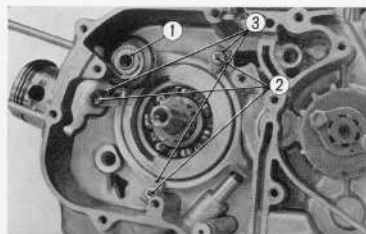

Fig. 3.60 Removing the cam chain tensioner
① Tensioner cushion rubber
② Tensioner push rod
③ Tensioner spring
④ 14 mm sealing washer
⑤ 14 mm sealing plug
4. Remove the cam chain tensioner ① by removing the three 5 mm screws ② attaching the cam chain tensioner setting plate ③ to the tensioner. (Fig. 3.60)